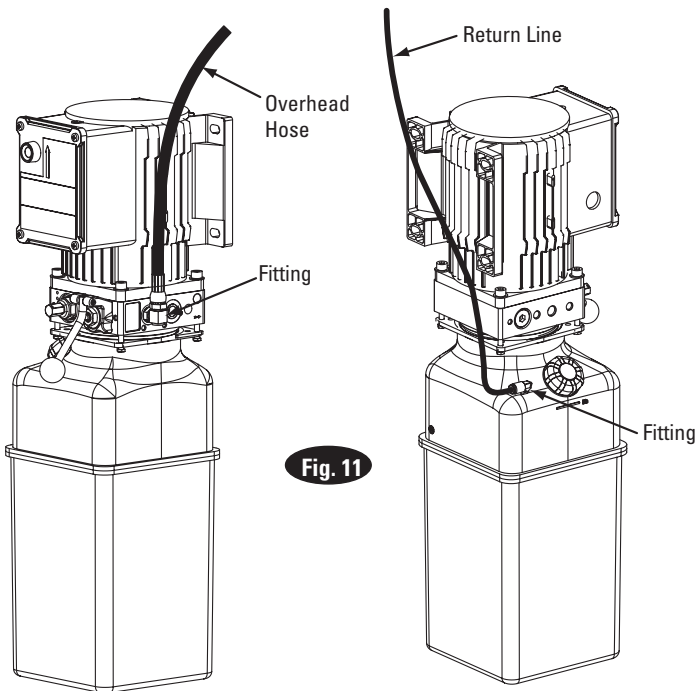

Fig. 11
**11. Hoses:** Clean adapters and hose. Inspect all threads for damage and hose ends to be sure they are crimped, Fig. 11. Install hose and hose clamps, Fig. 12 & Fig. 16a.